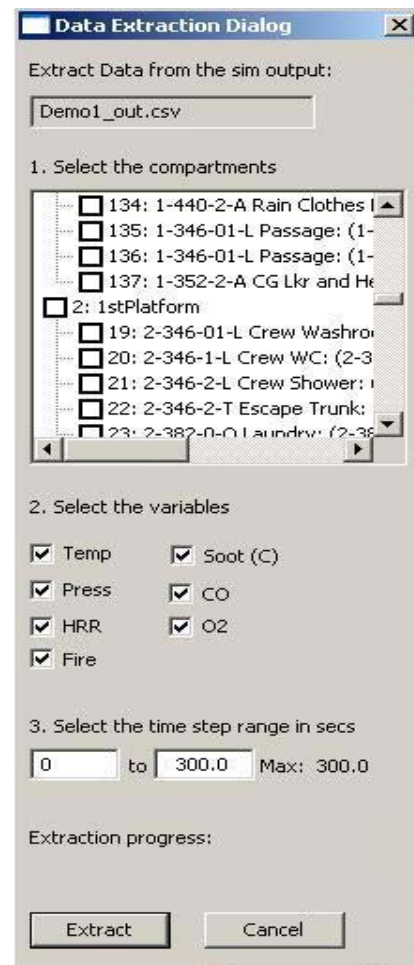

Figure 12-10 Data Extraction dialog
- a. First way is to click in the checkboxes of the tree in the data extraction dialog (Figure 12-10) to select or deselect the compartments.